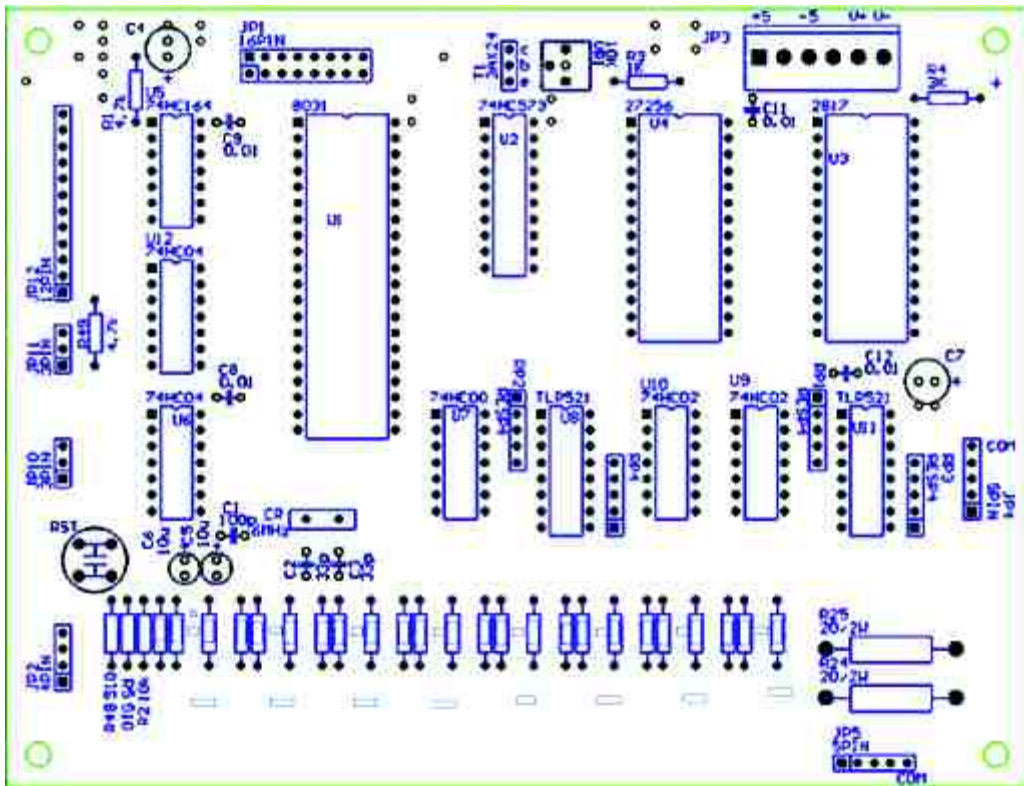

Figure 5: Components Arrangement on the Power Supply Board
-Check JP4, JP5 on the main board (see attached figure 5) to find out whether the pin is properly connected to the socket or not.